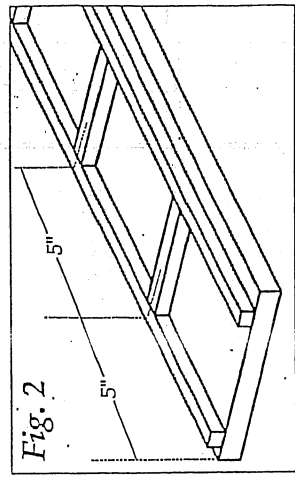
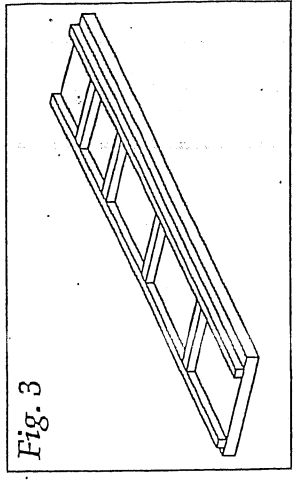

Fig. 2
Fig. 3
3. From another piece of 3/16" square stock, cut four 2-3/4" long pieces. Take the baseboard, and from one end make a line on the support rail every 5" (figure 2). Repeat the marks on the other rail. At each set of marks, position one of the short 3/16" square pieces you've just cut, and glue into place. These cross-pieces must be square to the side rails and positioned every 5" on center (figure 3).